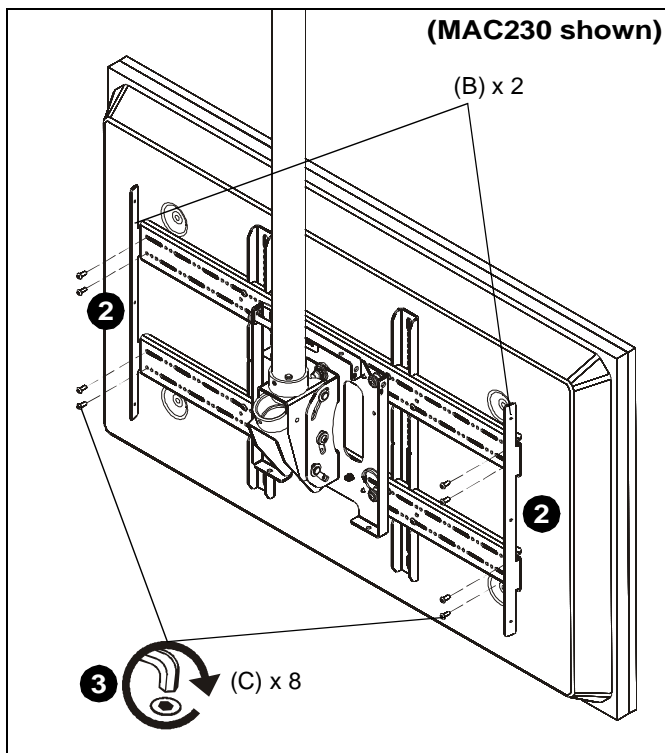

Figure 1
2. Position one attach bracket (B) with MSBUB horizontal mounting brackets so that the holes on tabs of attach bracket line up with holes on horizontal mounting brackets. (See Figure 1)
3. Use four #10-24 x 1/2" button head cap screws (C) to connect attach brackets (B) to MSBUB horizontal mounting brackets. (See Figure 1)